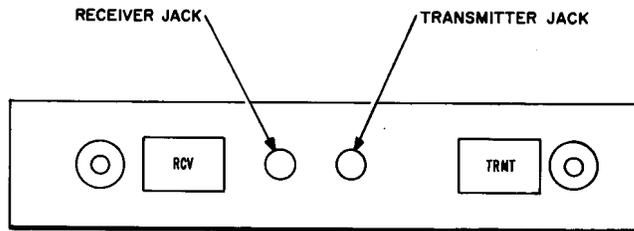

Fig. 2—Test Set Jack Locations on Cord Reel Unit
- (1) OUTPUT switch to BIPOLAR.
- (2) DATA RATE switch to 2.4.
- (3) MODE switch to REPEAT.
- (4) Insert the TRMT cord reel plug into the RCV jack (Fig. 2) in the cord reel unit.
- (1) Insert one of the CONT CODE cord reel plugs into the RCV cord reel jack (Fig. 2).
- (2) Condition the receiver as follows: